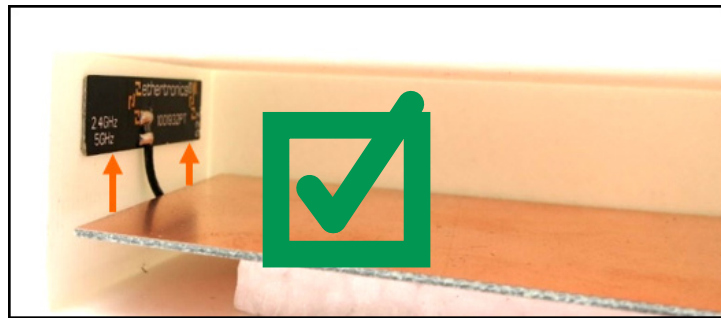

Figure: 1
- Recommended to place antenna on side wall away from PCB, see Figure 1 below